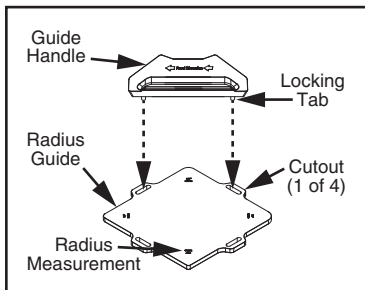

Figure 2. Installing guide handle on radius guide.
1. Use measurement at corner of each guide to determine which is appropriate for your operation (see Figure 2).
2. Snap handle into cutouts on guide (see Figure 2).